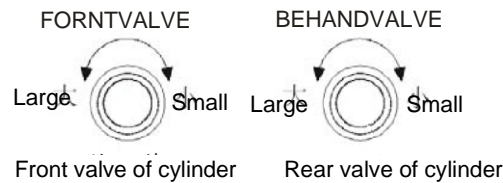

Figure 1
- (1) Connect the air source and slide the air inlet collar towards the machine.
- (2) Check whether the air pressure meter is in the specified range (roughly reading in the “12-3 o’clock” range). If not, draw the air pressure knob outwards to unlock, rotate the pressure regulator knob until the pressure is in the specified range (0.4-0.5Mpa) and push the knob back in to lock.
- (3) Use the Auto/Semiauto switch to set the filler to the desired operation method.
- (4) To make an adjustment, you can loose the locking handle on the adjustment sensor, rotate the handwheel, take note of the value on the position display and fasten the handle.
- (5) Adjust the front valve (for adjusting drawing speed) and behind valve (for adjusting filling speed) as shown in Figure 1 to get reasonable drawing and filling speed.